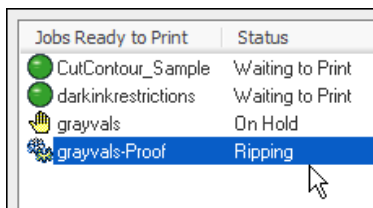

Figure 7—Proofing
3. RIP-Queue creates a new job in the Jobs Ready to Print area and appends -Proof to the job name. RIP-Queue also places the original job on hold until you release it (see Figure 7).